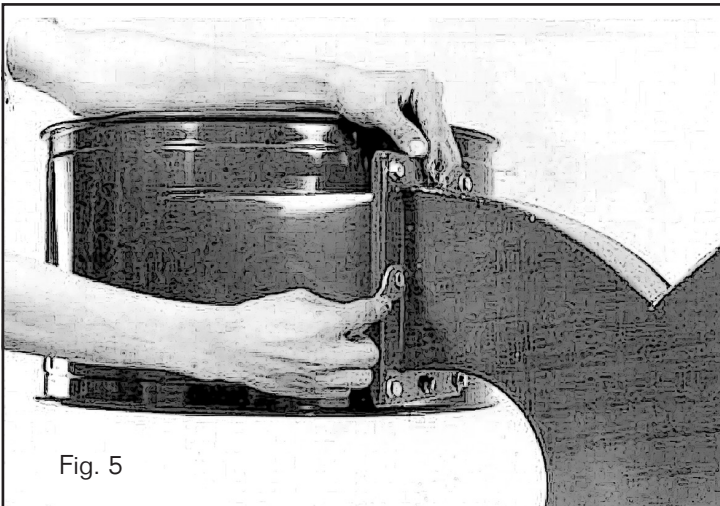

Fig. 5
Next install the two collectors (C) two packing (I) to the outlet as shown on fig. 5.